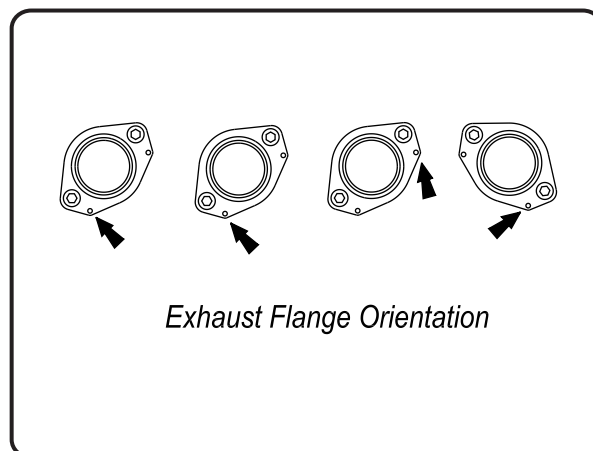

Fig. 5
- 6 Install Yoshimura manifolds and flanges into exhaust ports using stock header nuts (see Fig. 5 for flange orientation). Do not torque at this time.
- 8 Connect header to flanges using the supplied springs (see Fig. 5 for spring locations). Install stock O2 sensor into Yoshimura header.